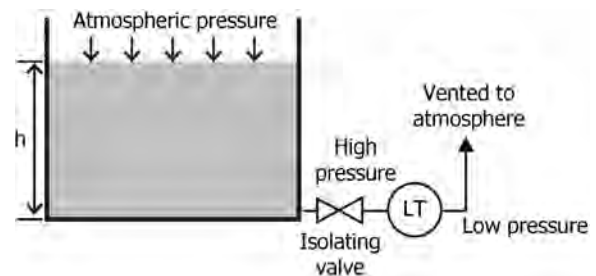

FIGURE 1.17 Liquid level measurement in an open tank.
- Figure 1.17 shows a typical open tank level measurement installation using a pressure capsule level transmitter (LT).